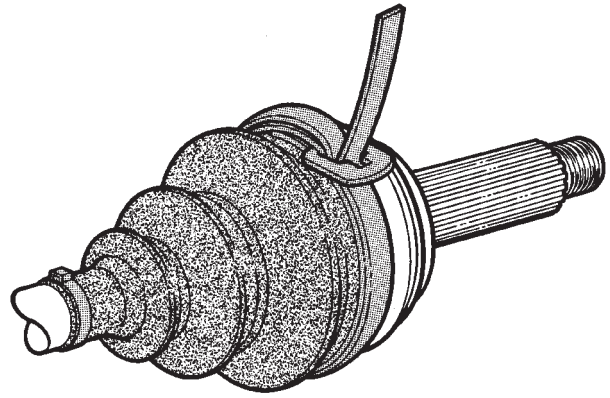

Fig. 5 Fold Strap Lightly to Keep Position
(7) Fold the strip back slightly to prevent it from slipping backwards (Fig. 5).